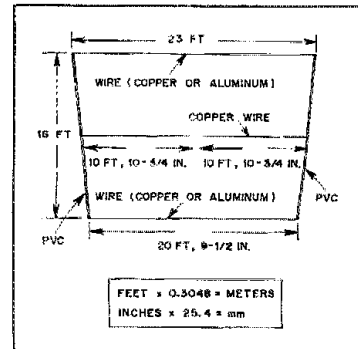

Fig. 1 — Diagram for laying out the elements of the beam.
Fig. 1 — Power vs. frequency for a direct-sequence-modulated spread-spectrum signal. The envelope assumes the shape of a $(\frac{\sin X}{X})^2$ curve. With proper modulating techniques, the carrier is suppressed.
The power spectrum for a DS signal (as might be seen on a spectrum analyzer) is not uniform across the band, but has a main lobe and sets of sidelobes as illustrated in the title photo and in Fig. 1. The bandwidth of the main lobe as measured from null to null is two times the clock rate of the code sequence. The bandwidth of the side lobes is equal to the clock rate. To receive a DS signal, the receiver must collapse or "despread" it to the original bandwidth of the information. This is done by using a replica of the code sequence used by the transmitter.
nail, measure off exactly $1/4$ wavelength, and mark the parallel wires with tape. Cut the wires 4 or 5 inches (100 or 125 mm) beyond the tapes to give yourself attachment and tuning length. Cut the wire at the bend and fasten each side to a center insulator. Cut your reflector 1 foot longer than the dipole assembled length, tape to tape, plus the same few inches for attachment. The director element is made the same way, only it is 1 foot shorter than the dipole (5% of 21.9 equals 1.09 foot [332 mm]). Overall dimensions are given in Fig. 1.
Next, cut six 1-inch strips from around the plastic laundry soap jugs — Era containers have a nice red color that turns passionate pink in the sun. Make them long enough to go around the tubing and leave a double tail 4 or 5 inches (100 or 125 mm) long to which the wires will be fastened (Fig. 1). Crimp these straps onto the PVC with small bolts or “pop” rivets and washers, up close so they will stay put. Place one strap an inch in from each end, and one at the midlength of each piece of pipe. Drill two holes about $3/16$ -in. (5-mm) dia in the last inch of each end of the spreaders, one hole vertical and one hole crosswise.
Fig. 1 shows two frequency response curves. The first is known as the maximally flat or Butterworth response, and the second as the equi-ripple or Chebyshev response. Ideally the number of positive peaks in this latter response should equal the number of crystals, and be of equal amplitude over the whole passband. However, in practice, fewer peaks than expected are usually found, some having merged with each other. And the ripple amplitude usually increases towards the band edges because the crystals and capacitors have a finite and unequal Q; these effects are particularly marked in higher-order filters.
Fig. 1 — Frequency responses of two typical 4-crystal filters, (A) Butterworth, (B) Chebyshev. The Butterworth filter bandwidth is actually 2369 Hz and the whole response has been scaled up to allow direct comparison with the 2762-Hz bandwidth Chebyshev filter.